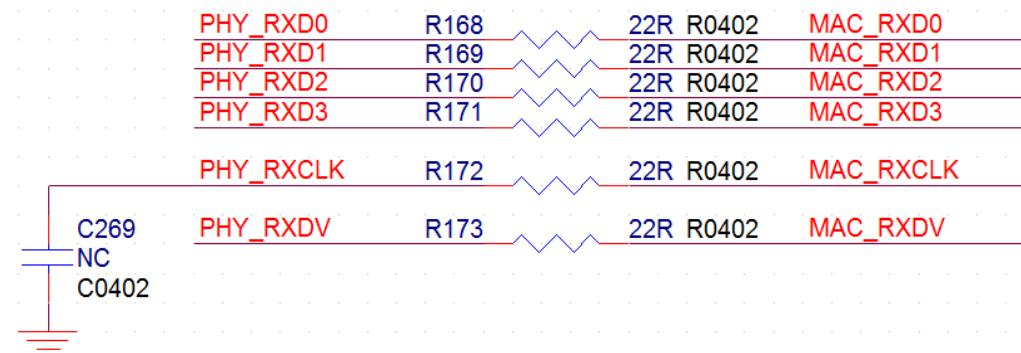

Figure 21-13
- The concatenation resistances in Figure 21-13 should be placed close to PHY to improve EMI.
- The distance between other signals in Figure 21-13 should meet the 3W layout rule.